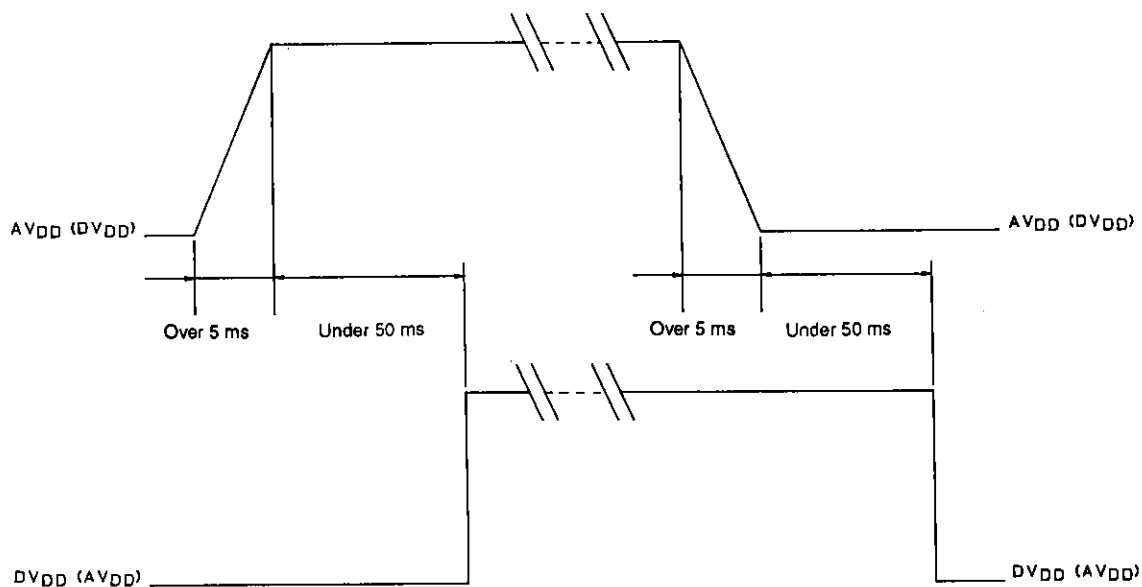

Figure 2
- If the time difference is greater than 3 ms, then the power supply that rises (falls) first must have a rise time (fall time) of 5 ms or longer, and the time difference must be less than 50 ms. (See Figure 2)